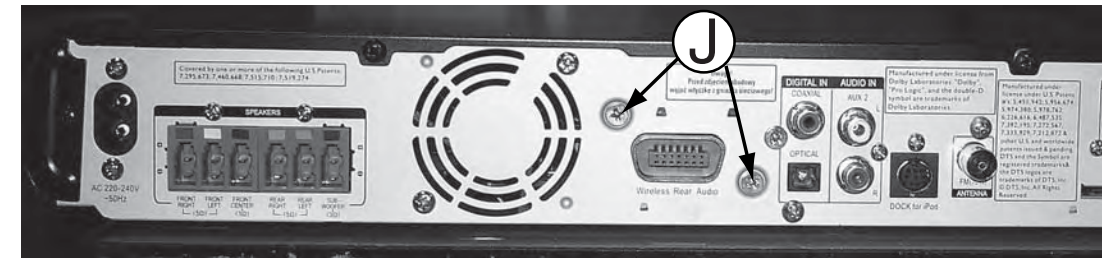

Figure 13
- 1) Loosen 2 screws "J" at the back panel to remove the Wireless Jack Board as shown in figure 13.